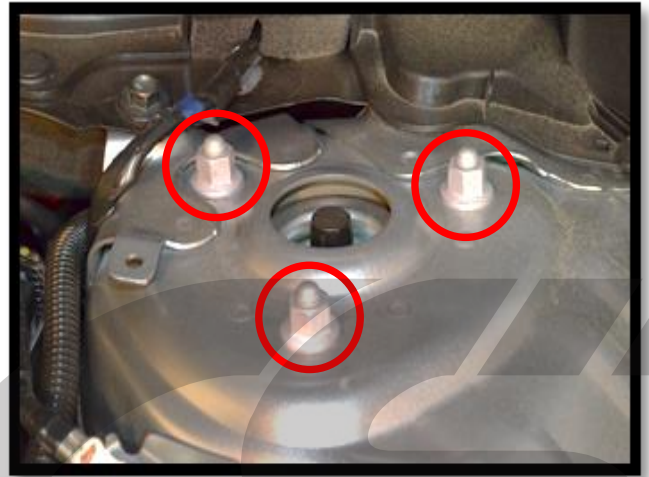

Figure 3h
- i) Place the strut assembly back up into the strut tower. Replace the three (3) nuts and tighten to 30ft-lbs (Figure 3h).
i) Place the strut assembly back up into the strut tower. Thread on the three (3) nuts you removed in step 2g and tighten to 30ft-lbs (Figure 3h).